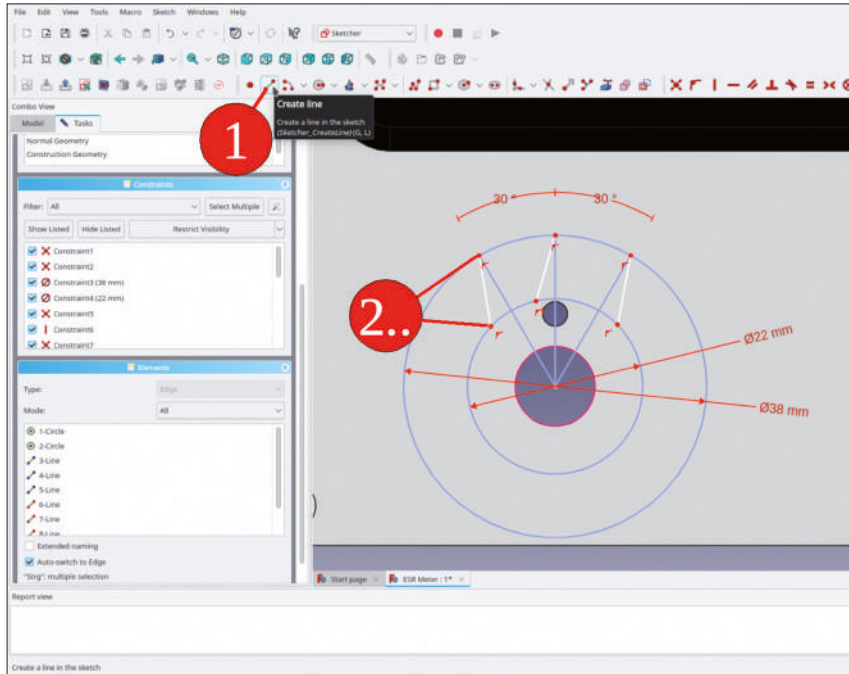

Figure 8-9
13. Draw three lines, which start at the outer endpoints of the construction lines. Place the endpoint on the inner circle, with arbitrary orientation of the lines. This is easier than trying to define all the constraints at once. The result is shown in Figure 8-9. End the drawing command with a right click.